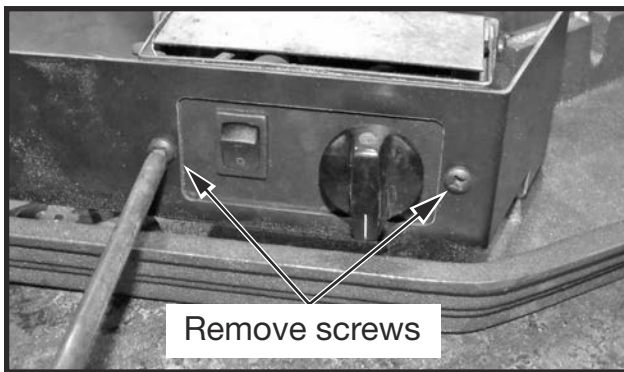

Figure 25: Speed control assy removal.
6. Remove the two screws securing the speed controls assembly to the ash lip (Figure 25). Remove cover plate on opposite side.